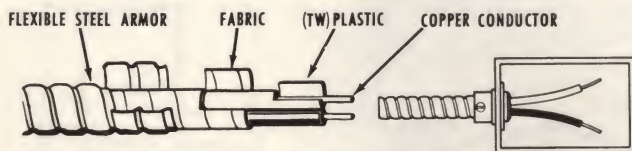

FIG. 3—ARMORED CABLE—"BX"
**FLEXIBLE ARMORED CABLE (BX).** Two or three insulated wires, each of which is wrapped in spiral layers of tough paper, are protected by a galvanized steel casing (Fig. 3). It is particularly recommended for indoor use in dry areas for either old or new work, especially where a good ground arrangement, such as connection with city water system piping (Fig. 99) is available. **CAUTION:** BX is not designed for use out-of-doors or underground. It is easy to install and acceptable in most localities. It affords a continuous ground and provides good mechanical protection to the wires. Use it indoors, for both exposed and concealed work—along walls, ceilings, etc., or in hollow spaces of walls, floors and ceilings. This cable may also be imbedded in plaster or other masonry, except in damp locations. Because it is versatile and easy-to-use, it is frequently selected for extension of conduit systems or for remodelling work.